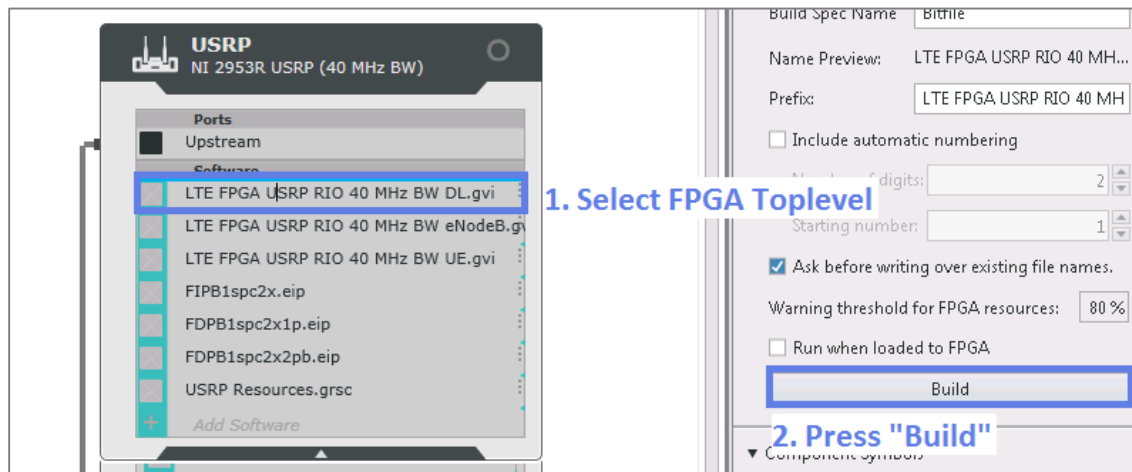

Figure 36 - Build a bitfile for the selected FPGA Top-Level VI
- c. Click **Build** on the right-hand rail as shown in Figure 36.